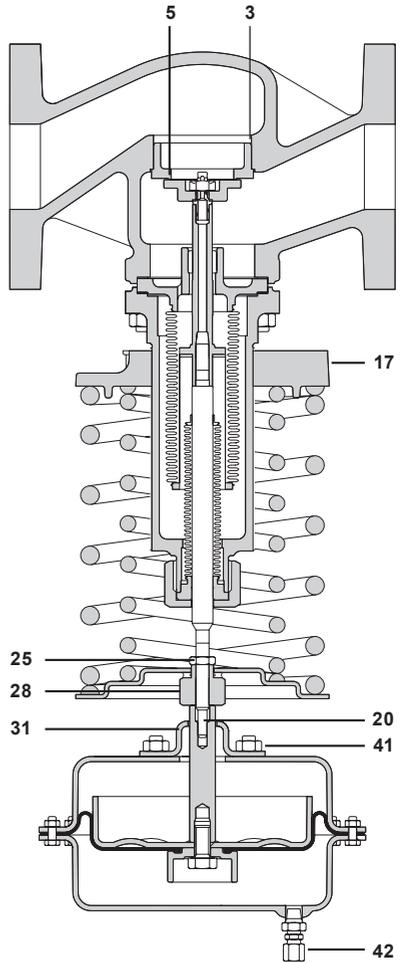

Fig. 7
4.3.1 Procedure for setting maximum valve lift (Figure 7):
- Disconnect the downstream sensing pipe coupling (42). Unscrew the actuator mounting nuts (41) and remove the actuator from the valve.
- Rotate the spring adjuster (17) to reduce spring(s) compression to zero.
- Whilst retaining setting nut (28) unscrew the lock-nut (25).
- Whilst applying pressure to the end of the valve stem (20), to ensure the valve head (5) is touching the valve seat (3), unscrew the setting nut (28) until it touches the mounting plate (31).
- Whilst retaining setting nut (28) to prevent rotation, tighten the lock-nut (25) to the recommended torque given in Section 4.2.